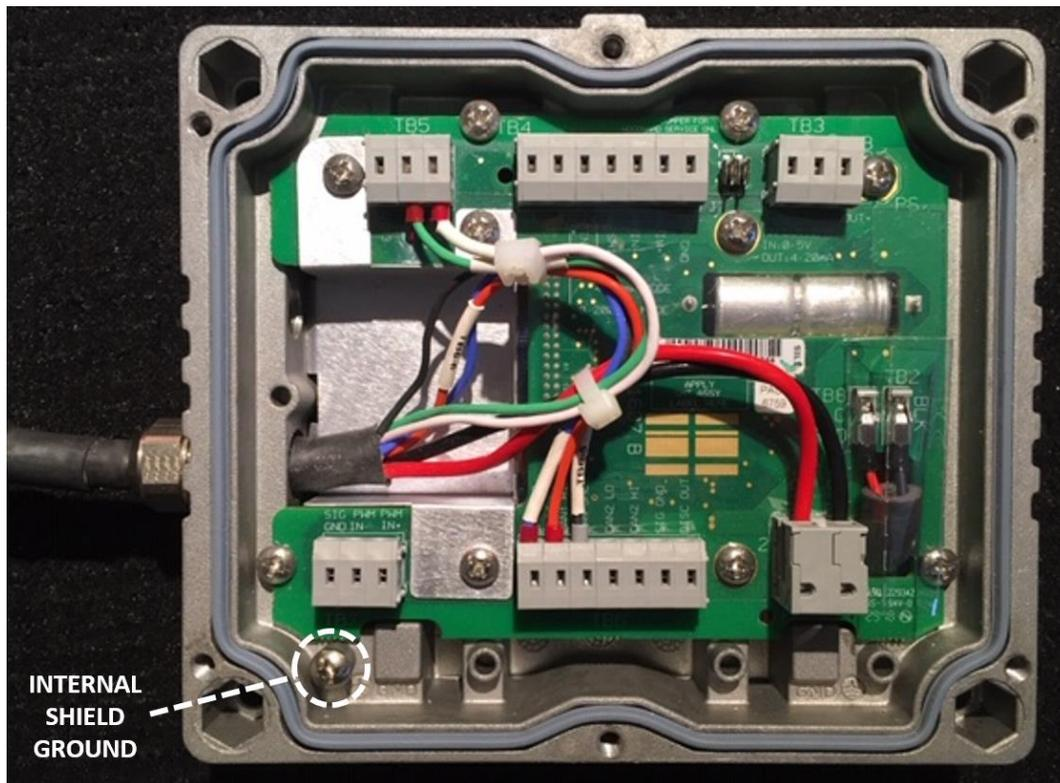

Figure 3-5. Example of Internal Wiring of ProAct Gen3 FLEX.
Using any connection approach for the ProAct Gen3 FLEX, there will be individual wires running from the inside wall of the housing or the cover to terminal blocks inside the unit. In many applications there will also be jumper wires connecting terminal block locations. With the exception of chassis shield ground, it is recommended that the wire routing is limited to the center of the electronics housing cavity, in the area between the rows of terminal blocks. Staying in this area will help avoid pinching any wires between terminal blocks and the cover or between cover and housing. There should be some slack in the wires between the entry point and the terminal block. With wires routed slack in the center of the electronics housing, there should be natural overlap of groups of wires. Using cable ties at these locations (where practical) will help support wires, reduce wire fatigue, and reduce fretting wear due to shock and vibration in application. An example of wire routing in the electronics cavity of the ProAct Gen3 FLEX is shown in Figure 3-5. Any cable ties selected for use in the ProAct Gen3 FLEX should be capable of temperatures typical of the application.
Per Figure 3-5, a thread-forming fastener has been installed at the preferred internal chassis shield ground location in general sale ProAct Gen3 FLEX units. The chassis shield ground connection should be an insulated wire terminated with a #8 ring lug or equivalent. The wire should be run between the terminal blocks (per Figure 3-5) and not over any of the terminal blocks to avoid pinching of the wires between the top of the terminal blocks and the cover. All internal wiring, with the exception of this chassis shield ground connection, should stay within the center of the electronics housing between the rows of terminal blocks.
**Note:** in Figure 3-5, the wires are slack and centered in the unit, between rows of terminal blocks. Two cable ties are shown at wire overlap points.
When using cable glands ensure to put Dome Nut, Sealing Sleeve and Sealing Collar on cable prior to feeding through cable gland Body, Reference Figure 3-6. Some cable glands will be used with only a sealing collar and without the sealing sleeve. In this case, ensure that the Dome Nut and Sealing Collar are on the cable prior to feeding through the cable gland Body. After installing the wires, apply thread locker (Recommended Loctite 243 or equivalent) to the dome nut threads and screw the dome nut onto the cable gland body. Make sure that the cable's overall jacket extends slightly into the electronics housing so that the rubber seal completely and tightly grips the cable jacket and reduces the chance of chaffing through wire insulation during operation, Reference Figure 3-5.